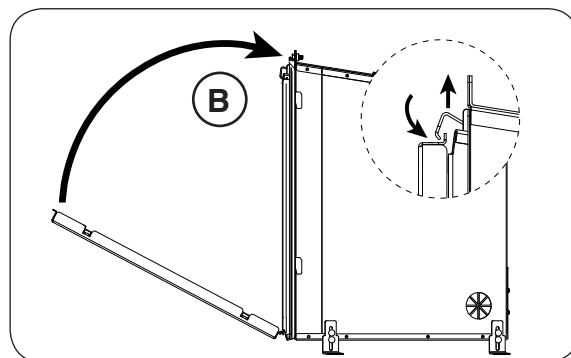

Fig. 35-2 Secure glass panel
2. With the bottom of the panel in place, rotate the panel upward until it closes. Then pull the spring latches (found on the top of the unit) out and over the two tabs found on the top of the panel. See Fig. 35-2, "B".